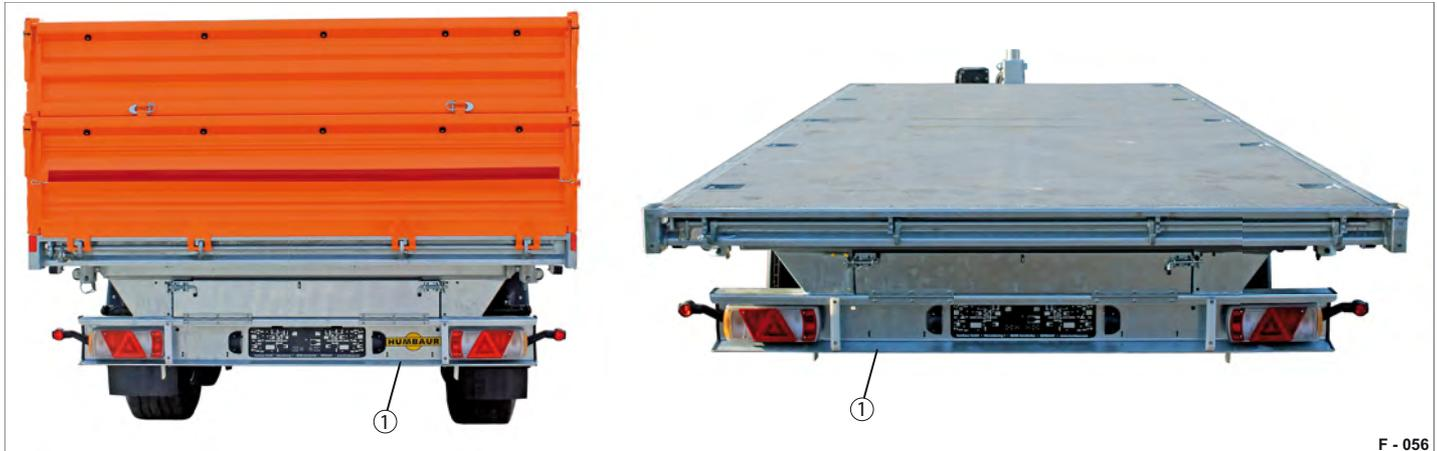

Fig. 80 Securing swivel support
- ▶ Pull on the locking lever (Fig. 80/1). The pin comes out of the lock bore hole. The swivel support is released.